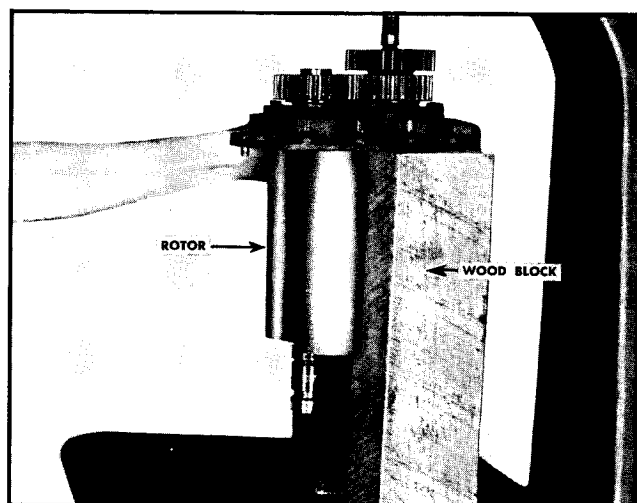

Fig. 10-6. Pressing gears off rotors
5. Press off the gears in an arbor press. See Fig. 10-6. Support the assembly on the under side of the end plate using wood blocks. Use two blocks of equal length with square ends. The rotors must be rotated into position where the end of the rotor being pressed out does not catch on the rotor shaft of the outer rotor.